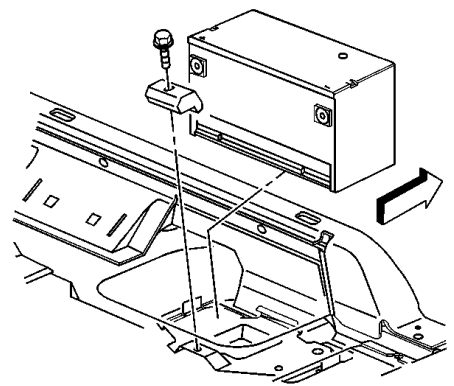

Fig. 5 Battery removal
8. Remove battery hold down retainer bolt and retainer, **Fig. 5**.
1. Install battery to vehicle, **Fig. 5**.